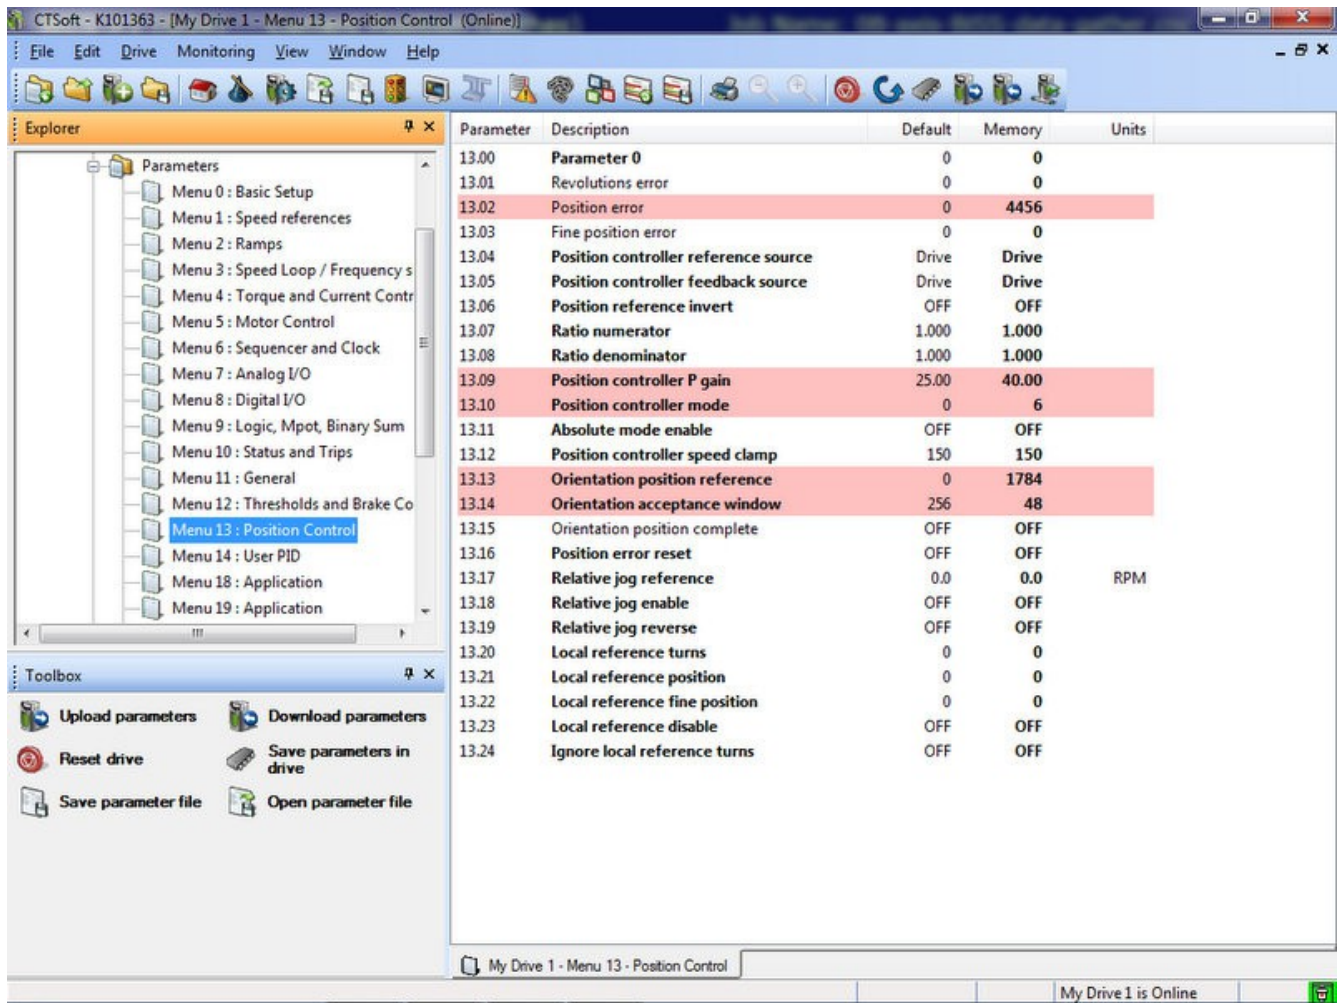

Figure 14 Parameters Menu
1. To start the tuning process first set parameter 0.40 to 2 either using the CT Soft software by manually changing in parameters (Figure 14) and selecting apply or the key pad by pressing the mode button and navigating to 0.40 and changing to 2 ensuring to press mode again to save change.